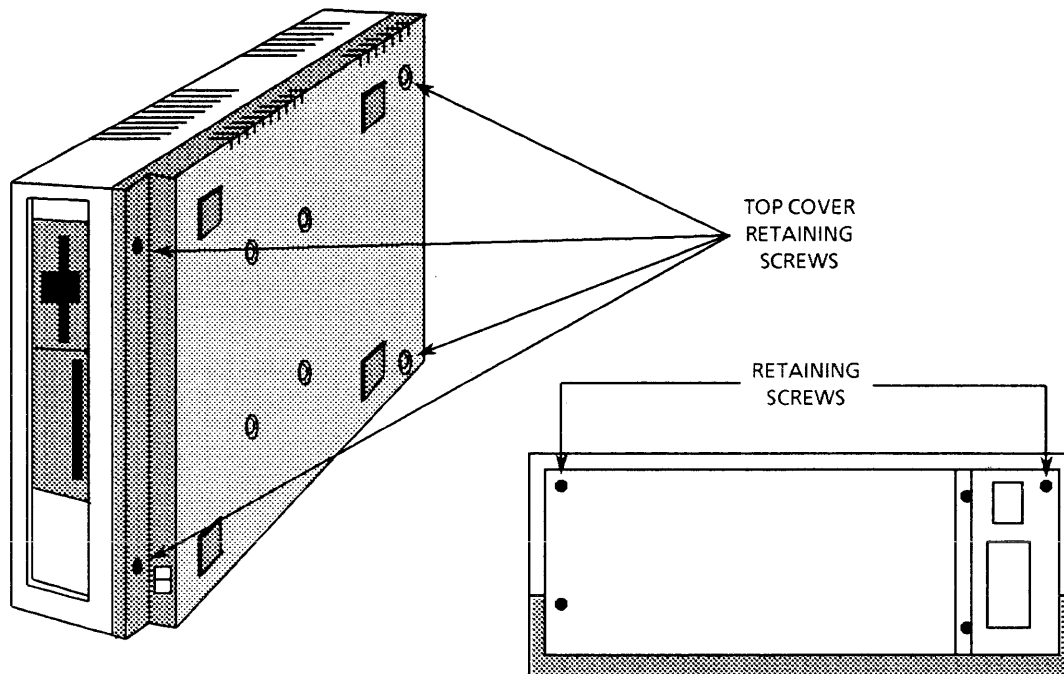

Figure 5-3. Removing the Top Cover
2. Tilt the system on its side, as shown in Figure 5-3, to access the top cover retaining screws located in the bottom of the chassis.